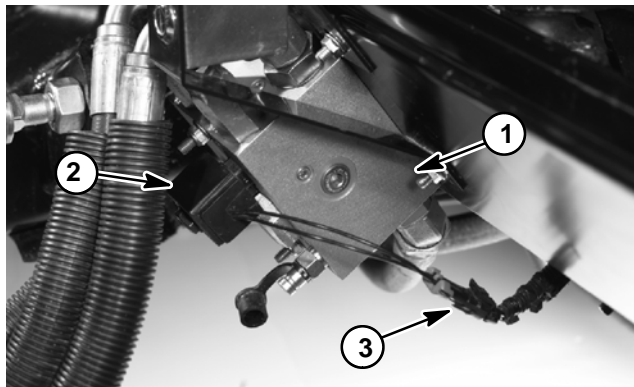

Figure 33
1. Make sure engine is off. Disconnect wire harness connector from the solenoid (Fig. 33).
2. Measure resistance between the two (2) solenoid connector terminals. The resistance for any solenoid coil used on the Groundsmaster 4100-D should be approximately 8.7 ohms.